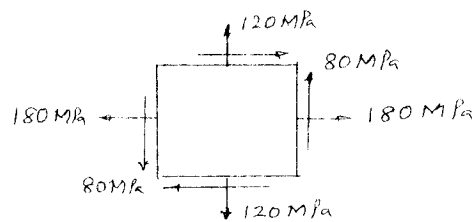

Fig Q3(b)
b. The state of stress in a two dimensionally stressed body is shown in Fig Q3(b). Determine :